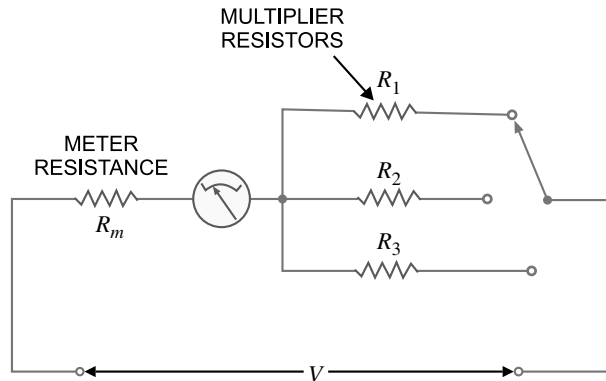

Fig. 20.7
**Example 20.1.** A PMMC (permanent-magnet moving coil) instrument with full-scale deflection (f.s.d.) current of  $50\ \mu\text{A}$  and meter resistance  $R_m = 1700\ \Omega$  is to be employed as a voltmeter with ranges of  $10\ \text{V}$ ,  $50\ \text{V}$  and  $100\ \text{V}$ . Calculate the required values of multiplier resistors for the circuit shown in Fig. 20.7.
**Solution.** In Fig. 20.7, only one of the three multiplier resistors ( $R_1$ ,  $R_2$  and  $R_3$ ) is connected in series with the meter at any time.
Referring to Fig. 20.7, the values of multiplier resistors  $R_1$ ,  $R_2$  and  $R_3$  can be found as under :
**Note.** We have seen that a multirange voltmeter can be constructed by using multiplier resistors  $R_1$ ,  $R_2$  and  $R_3$  in two possible ways [See Figs. 20.7 and 20.8]. However, the circuit shown in Fig. 20.8 is least expensive to construct. It is because all the multiplier resistors in Fig. 20.7 must be special (non-standard) values while in Fig. 20.8, only  $R_1$  is a special (non-standard) resistor and all other multipliers are standard-value resistors.